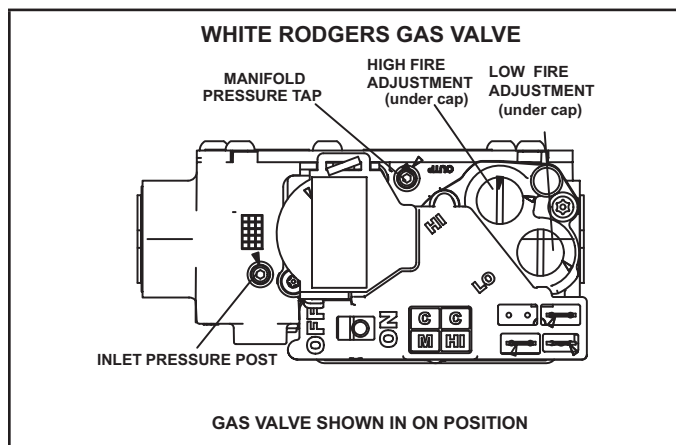

FIGURE 63
### Gas Valve Operation (FIGURE 63)
- 6 - Move gas valve switch to **OFF**. See FIGURE 63.
- 8 - Move gas valve switch to **ON**. See FIGURE 63
An inlet post located on the gas valve provides access to the supply pressure. See FIGURE 63. Back out the 3/32 hex screw one turn, connect a piece of 5/16 tubing and connect to a manometer to measure supply pressure. See TABLE 16 for supply line pressure.
A manifold pressure post located on the gas valve provides access to the manifold pressure. See FIGURE 63. Back out the 3/32 hex screw one turn, connect a piece of 5/16 tubing and connect to a manometer to measure manifold pressure.
- 5 - If necessary, make adjustments. FIGURE 63 shows location of high fire and low fire adjustment screws.